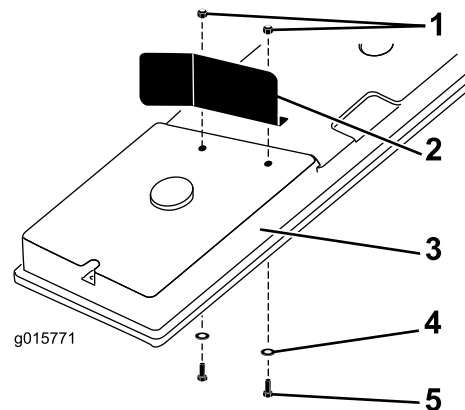

Figure 3
6. Mount the deck guard to the deck cover as shown in Figure 3.